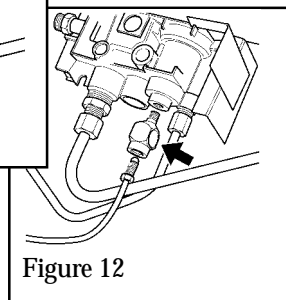

Figure 12
5. Fit the thermocouple interrupter to the valve block. See figure 12.